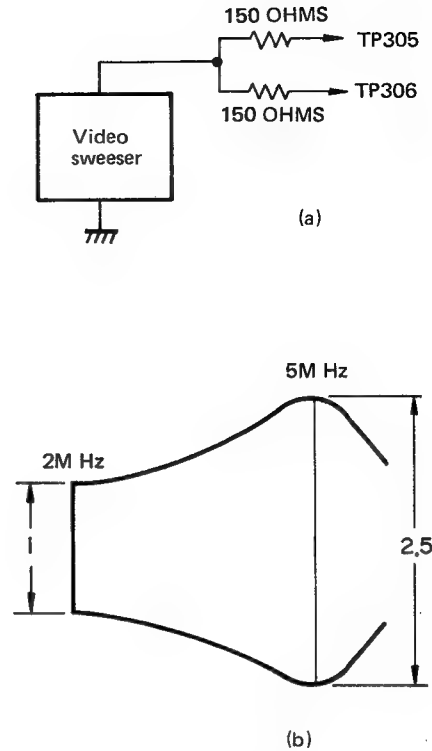

Figure 8-26.
2. Connect a video sweeper to TP305 and TP306 (see Figure 8-26 (a)).
4. Make adjustment as follows (see Figure 8-26).
- (1) Adjust sweep speed of the oscilloscope to see channels 1 and 2 simultaneously.
- (2) Adjust R319 (channel 1 – DUMP) and R321 (channel 2 – DUMP) so that the peak become the highest and the waveform extend to high frequencies.
- (3) Adjust C311 (channel 1 trimmer) and C312 (channel 2 trimmer) to bring the peak to approximately 4.5 MHz.
- (4) Adjust R319 and R321 to make the waveform as shown in Figure 8-26 (b).